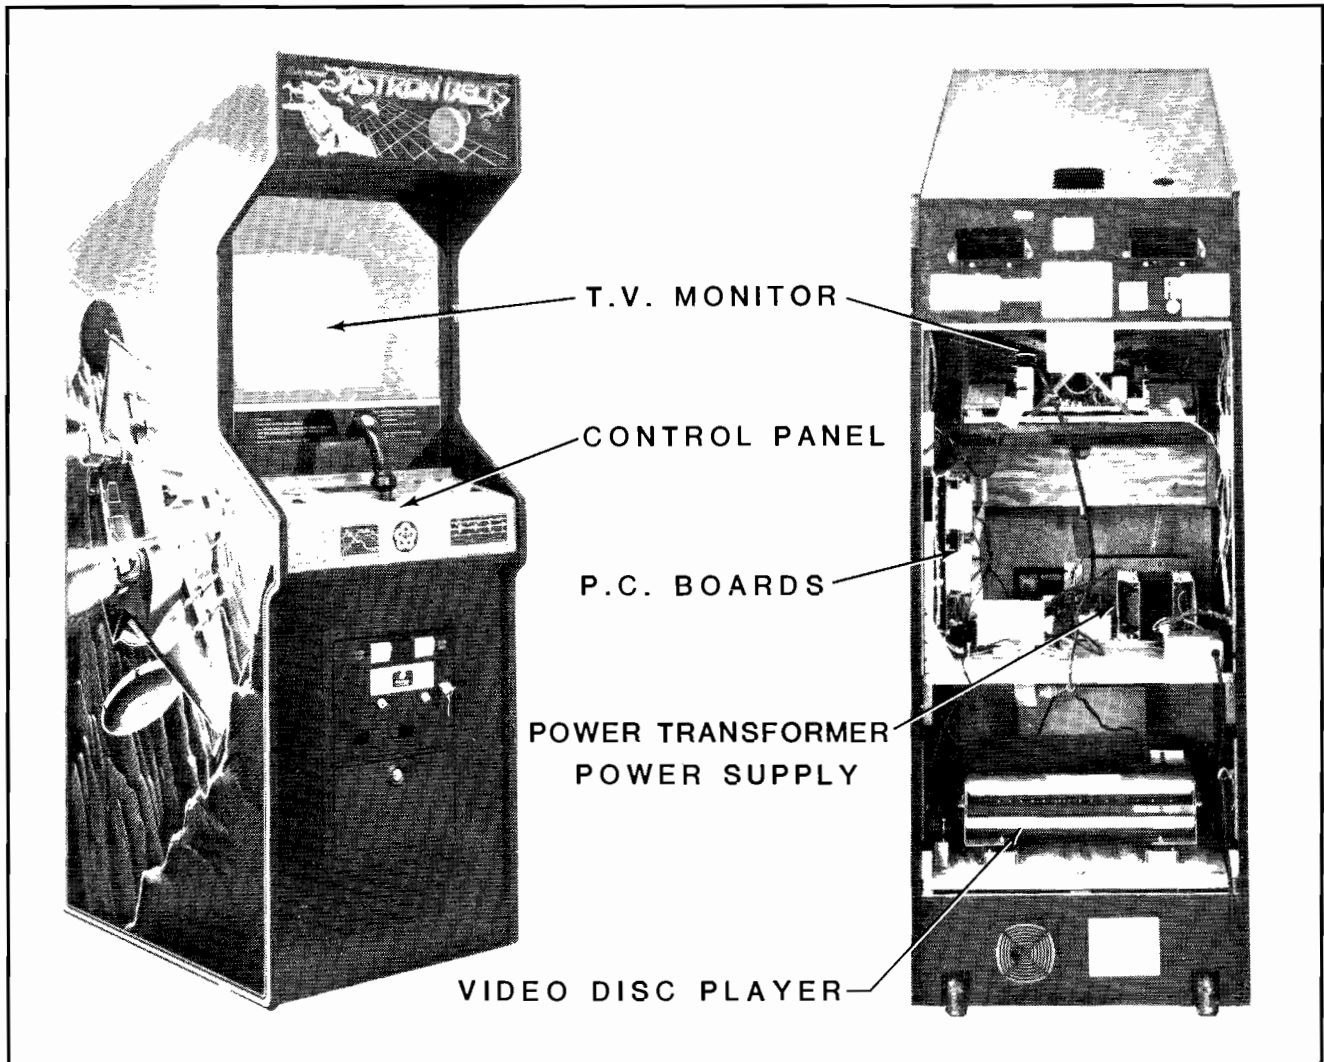

Figure 1-2 Location of Serial No., Interlock Switch, & Major Sub-Assemblies
5. Open the cabinet and inspect the inside of the game for any signs of damage. See Figure 1-2.
Make sure all printed circuit boards (P.C.B.'s) are firmly seated in their connectors. See Figure 1-2. These connectors are
Note the location of the games serial number. See Figure 1-2.
Check all major subassemblies to be sure they are mounted securely. These are called out in Figure 1-2.
3. Interlock and power ON/OFF switches. See Figure 1-2.
The game ON/OFF switch is located as shown in Figure 1-2. Turn the game on and allow it to warm up a few minutes.